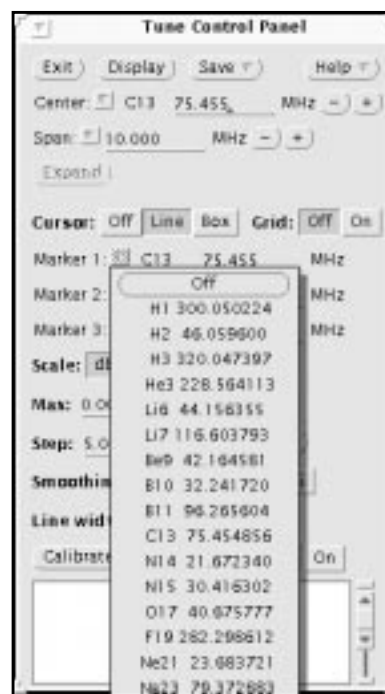

Figure 13. Pull-Down Menu for Marker 1
- a. In the Tune Control Panel (see Figure 9), click on the triangle next to one of the markers to open a pull-down menu (Figure 13 shows the Marker 1 menu).
In the **Marker 1**, **Marker 2**, and **Marker 3** fields, the Tune Control Panel provides three markers for marking fixed frequencies. Each marker has a pull-down menu (see Figure 13) that lists the same nuclear frequencies and the Center pull-down menu. Each marker also has an entry field for entering a frequency.